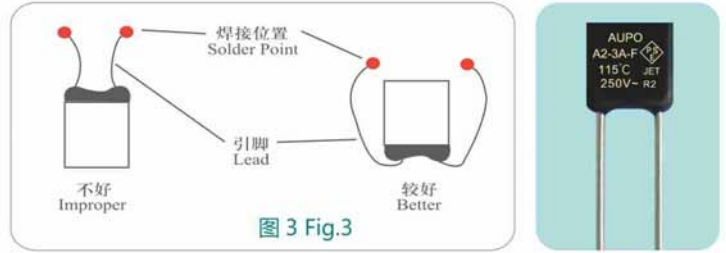

图 3 Fig.3
- 尽可能利用长一些的引脚, 长一些的引脚允许较长的焊接时间及减少过热的可能性。(见图 3) 为如何在较小的位置保留长一些的引脚的例子。在引脚较短的情况下, 在焊接时要用尖嘴钳或其它工具夹在引脚上焊点和保险丝体之间位置上以散热, 避免焊接热传入量温度保险丝内部。同时焊接温度应控制不要过高, 焊接时间尽可能短。
- Using the lead wires as long as possible when soldering, longer leads permit a longer soldering time and reduce the possibility of overheating.Fig.3 is an example of how to keep a longer lead wires when a thermal cutoff is installed in a small space.It is recommend that using a heat sink between the soldering point and sealant to minimized the heat transmission to thermal cutoff.Avoid the soldering temperature is too high and keep the soldering time as short as possible.